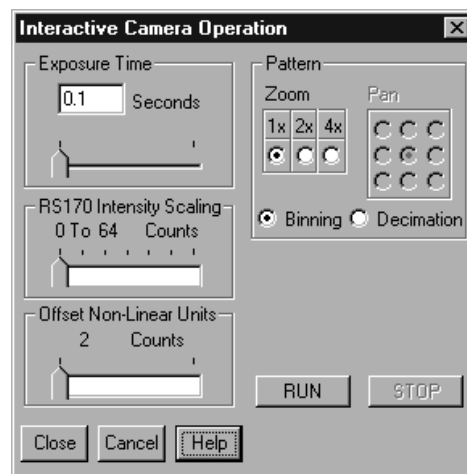

Figure 51. MicroMAX or ST-133 Interactive Camera dialog box
2. Select **Video Focus** from the Acquisition Menu. The **Interactive Camera** dialog box (Figure 51) will open.